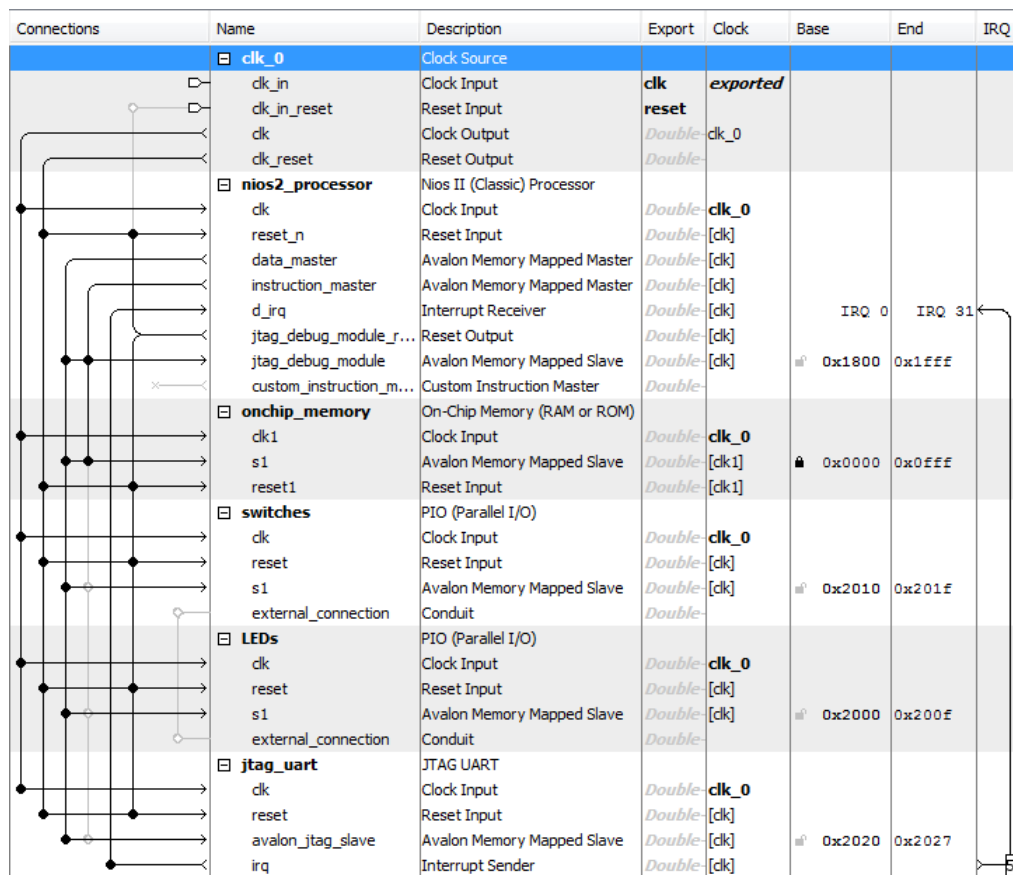
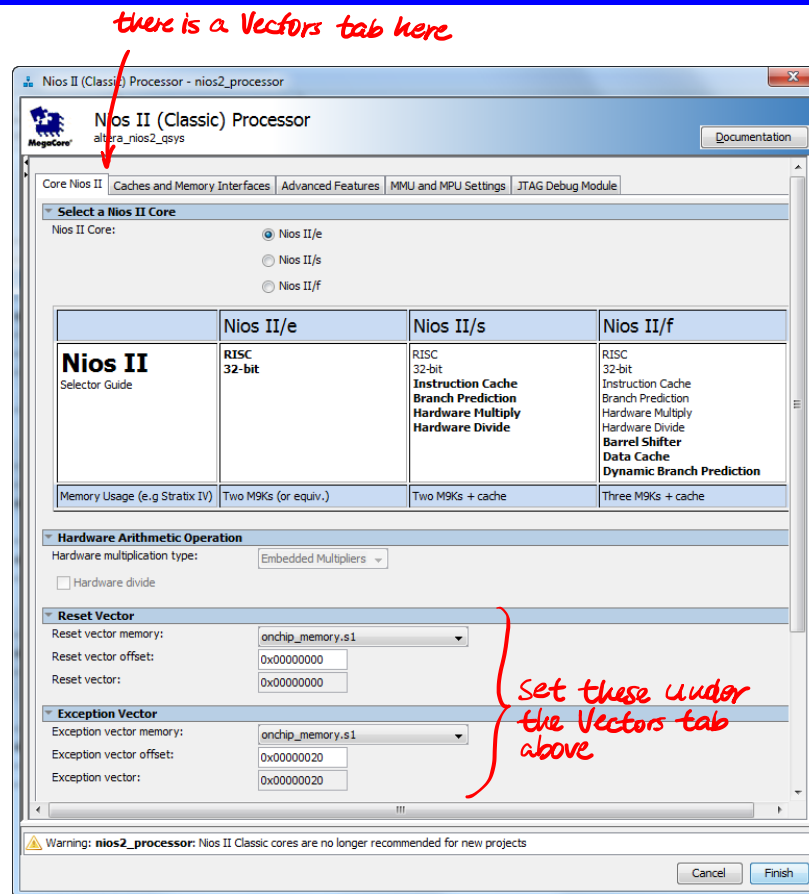

Figure 16. The system with assigned addresses.
Figure 17. Define the reset and exception vectors.
- Observe that the base and end addresses of the various components in the designed system have not been properly assigned. These addresses can be assigned by the user, but they can also be assigned automatically by the Qsys tool. We will choose the latter possibility. However, we want to make sure that the on-chip memory has the base address of zero. Double-click on the Base address for the on-chip memory in the Qsys window and enter the address 0x00000000. Then, lock this address by clicking on the adjacent lock symbol. ~~Now, let Qsys assign the rest of the addresses by selecting System > Assign Base Addresses (at the top of the window), which produces an assignment similar to that shown in Figure 16.~~
- Right-click on the *nios2-processor* component in the window displayed in Figure 16, and then select Edit to reach the window in Figure 17
- Select *onchip_memory.s1* to be the memory device for both reset and exception vectors, as shown in Figure 17